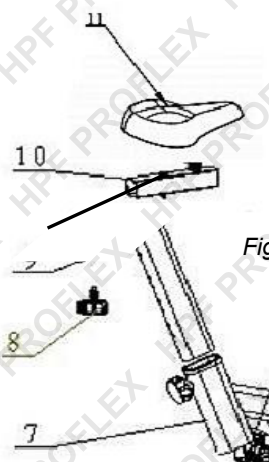

Fig. 2
4. See Fig. 2. Insert the saddle post (9) into the frame (1), with the height adjustment holes facing rearward. Secure it at the desired height with 1 post locking screw (7) – the pin on the end of the screw must enter a hole in the post to be able to secure properly. Firmly tighten (rotate right) the screw by hand.
5. Place the saddle (11) onto the pin on top of the saddle base (10). Tighten (rotate right) the saddle clamp with the supplied spanner.